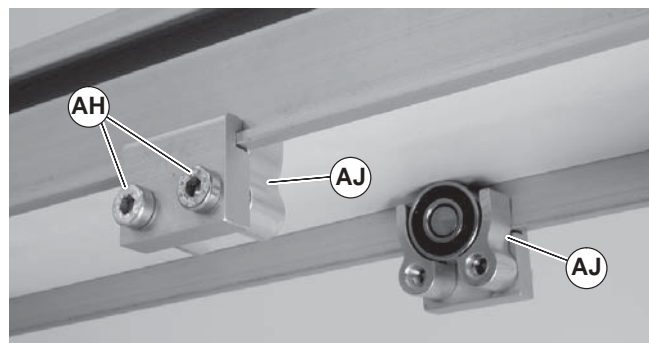

Figure 13
3. Install roller assemblies (Figure 13, item AJ) as shown. Tighten screws (AH) to 60 in-lb (7 Nm).